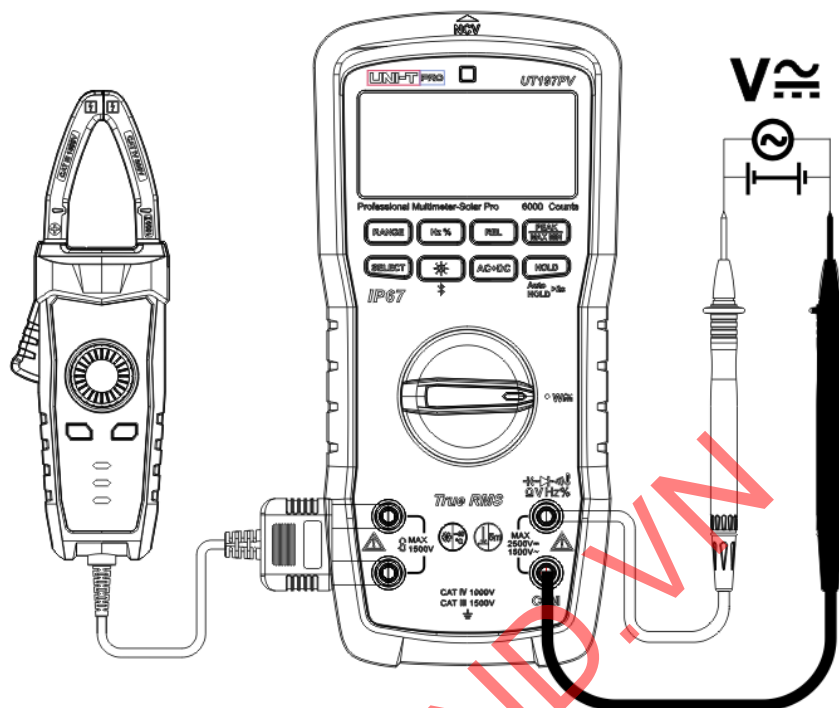

Figure 14
11. AC/DC power measurement (Figure 14)